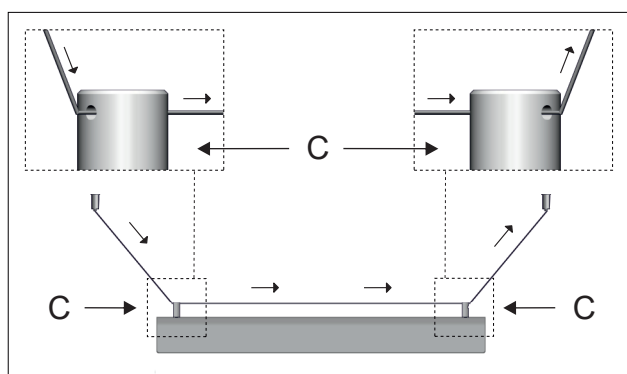

Figure 4
4 - Run the cable through the inner hole of the other cap (C) and repeat step 2 with the other gripper support to attach the lamp to the ceiling. Adjust the cable to the desired height and cut the excess steel cable. Figure 4